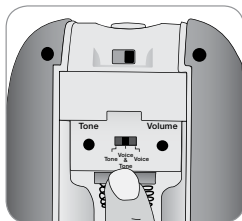

Fig. 4
3. Slide the MODE Select Switch to the desired alarm mode (Fig. 4).